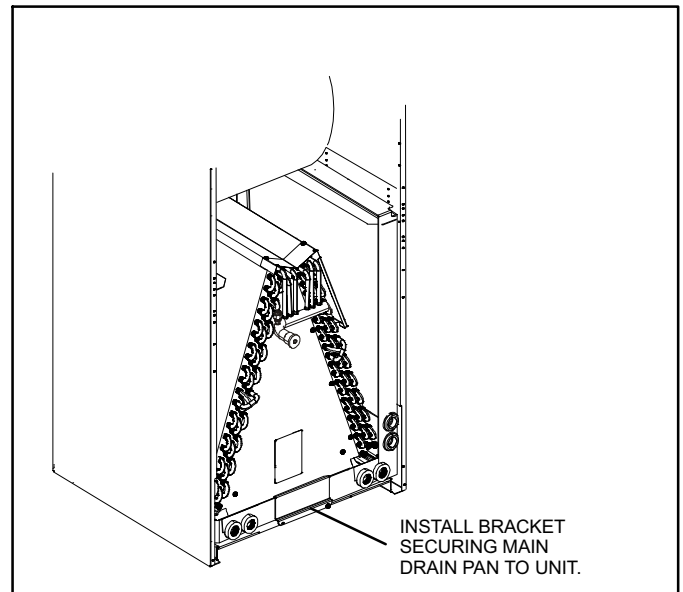

**Figure 4. Remove Main Drain Pan Mounting Bracket (-018 through -036)**
- Remove bracket(s) securing pan(s) to unit as illustrated in figures 4 and 5.